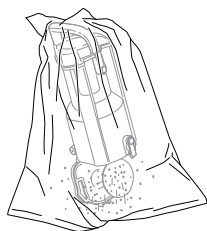

Fig. 16
- 4 **Option B:** For Allergy Sufferers: Wrap a trash bag around the Dust Cup Assembly leaving space at the bottom for the door to swing open. (Fig. 16)